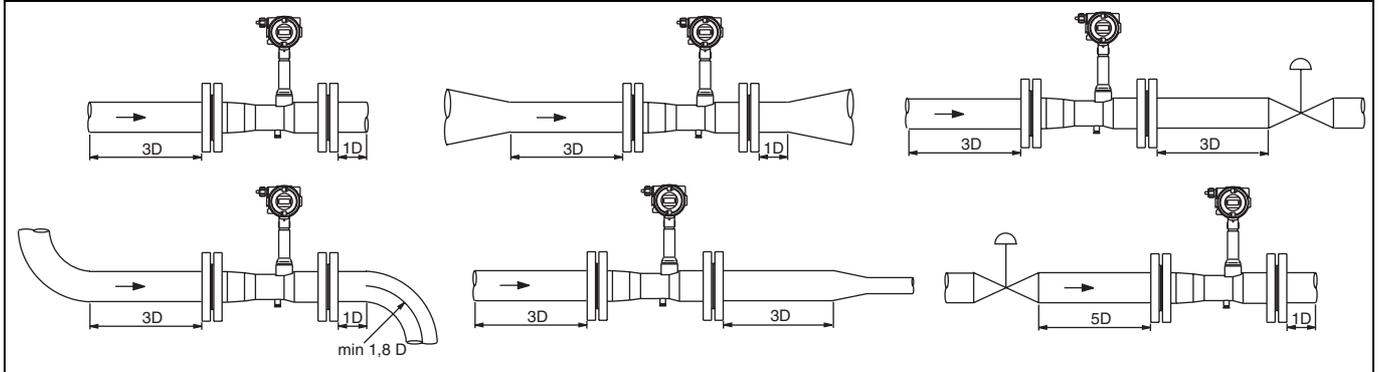

Fig. 4: Recommended In- and Outlet Straight Sections
- the recommended in- and outlet straight sections are provided (Fig. 4).
The measurement principle of the Swirl Flowmeter requires only minimal in- and outlet lengths of straight pipe. Fig. 4 shows the recommended lengths for the in- and outlet straight sections for various installation conditions. No in- or outlet straight sections are required when single or double elbows are installed up- or downstream from the flowmeter primary whose radius is greater than $1.8 \times D$. No additional in- or outlet straight sections are required downstream from reducers per DIN 28545 ($\alpha/2 = 8^\circ$).